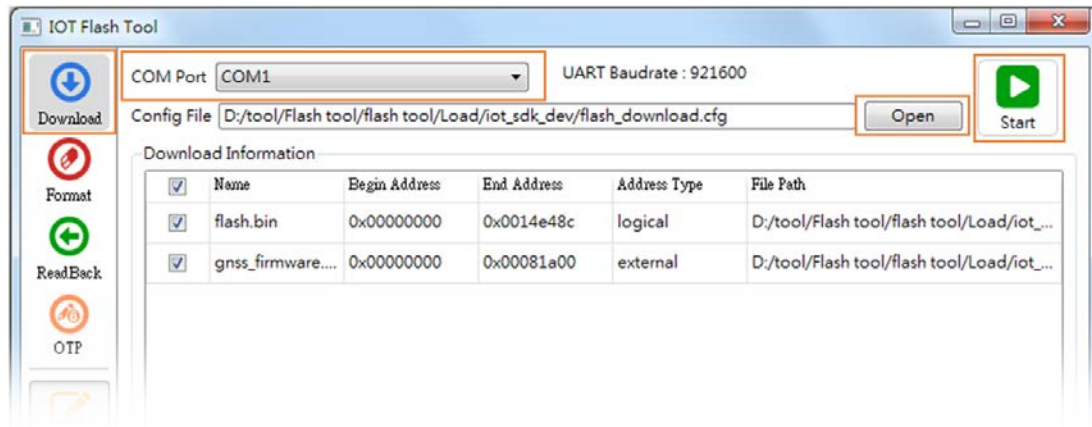

Figure 26. Download the firmware to a target device using USB connection
- 4) Click **Open** to provide the configuration file, which is usually named as `flash_download.cfg` and is generated after build process. If it loads successfully, **Download Information** will be displayed, including **Name**, **Length** and **File Path** of the firmware binary, as shown in Figure 26.